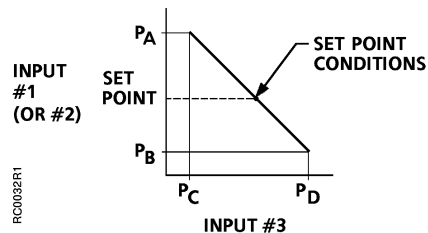

Figure 9. Graph of Percent Authority Formula.
- For two and three input receiver-controllers the set point conditions equal the midpoint of the usable portion of the schedule. See *Figure 9*. This is expressed in percent RH, degrees Fahrenheit, inches W.G., or metric units.